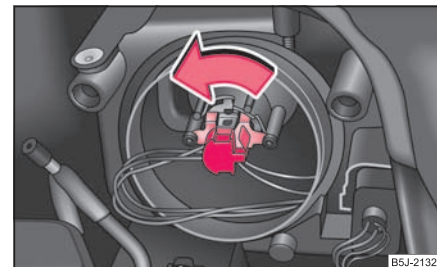

Fig. 214 Removing the light bulb for the low beam and main beam light
- For headlights with module (halogen lamp H7) ⇒ fig. 214 turn the connector with the halogen lamp to the left up to the stop and remove.